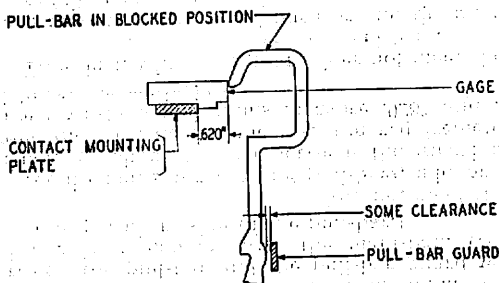

Fig. 25
- (1) Gauge with the TP99391 gauge.
- (2) To adjust, add or remove shims between the pull-bar-contact mounting plate and the mounting posts.
- (b) The toes of the two end and one middle pull-bar hooks should be as close as possible to .620" in front of the contact mounting plate. Fig. 25
2.40 **Pull-bar guard** should meet the following requirements with the main-bail in its lowest position; (Type "F" only). Fig. 25